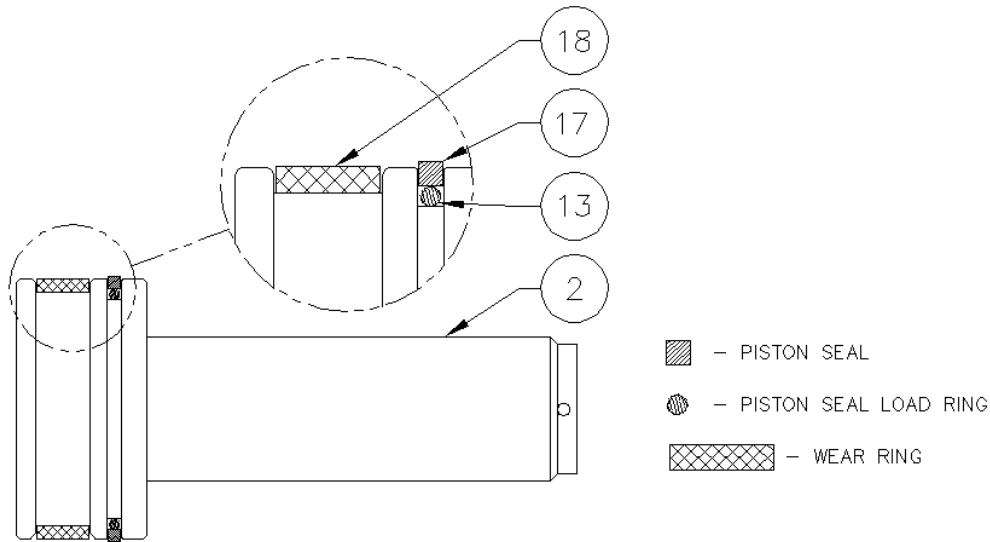

figure A-2
- Install the piston seal load ring (13) (fig. A-2) in the small groove on the head of the lower piston (35). Place the “square” piston seal (17) over the load ring (13) in the same small groove (a small “*blunt*” flathead screwdriver may be used, taking care not to scratch or damage the seal). Install the wear ring (18) in the large groove on the head of the lower piston (35). Using a ring compressor, firmly seat the rings on the lower piston before setting it aside. Repeat this procedure for the other lower piston.